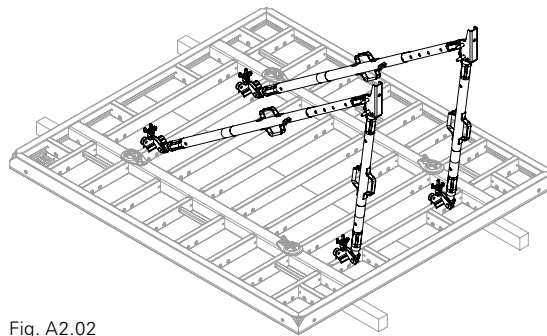

Fig. A2.02
2. Mount Push-Pull Props, see Section A6. (Fig. A2.02)